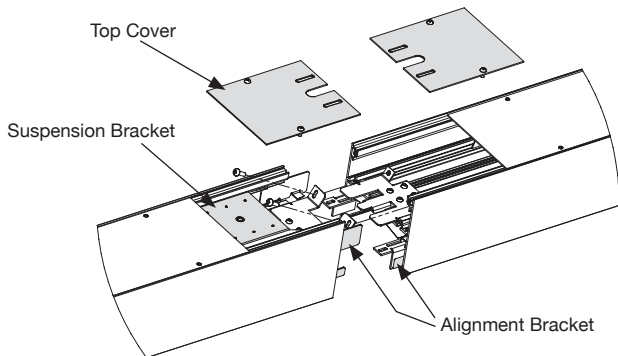

Fig. 1 - Continuous Run - Top Bracket
- Remove the screws and top covers on both sides of the fixture joint in order to expose the inner fastening brackets (Fig. 1).
- From the top of the fixture, connect and fasten the top brackets using two supplied #6-32 screws (Fig. 1).